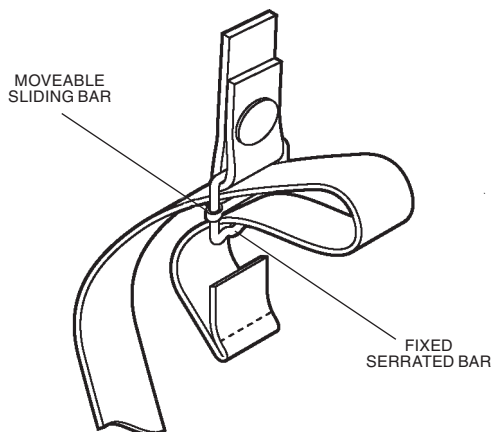

FIGURE 4.2. THREADING THE SLIDING BAR BUCKLES
(1) Thread the strap from the inside of the buckle over the moveable sliding bar (see Figure 4.2.). Thread the strap back through the buckle but this time under the moveable sliding bar and over the serrated part of the buckle.
(2) Pull the strap through the buckle and tighten as necessary.
(3) Repeat steps 1 and 2 for other straps and buckles that may have come undone.